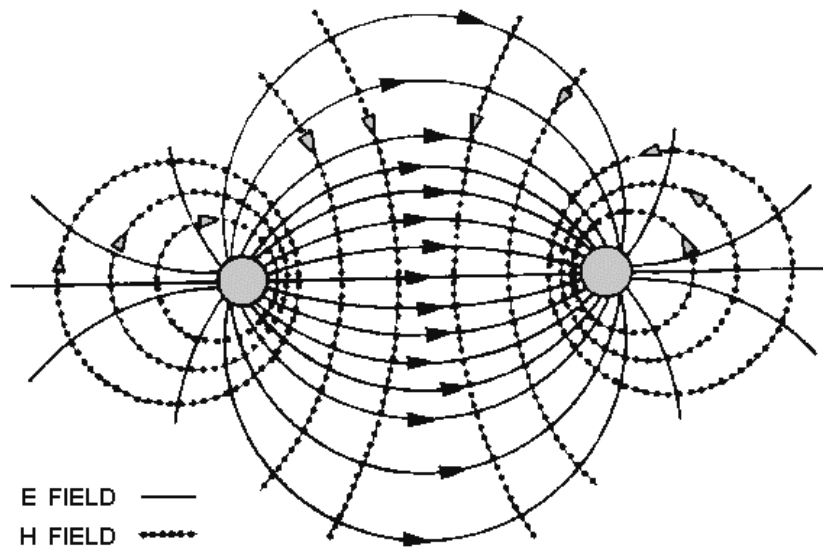

Figure 3-14.—Fields between conductors.
There are two kinds of fields; one is associated with voltage and the other with current. The field associated with voltage is called the ELECTRIC (E) FIELD. It exerts a force on any electric charge placed in it. The field associated with current is called a MAGNETIC (H) FIELD, because it tends to exert a force on any magnetic pole placed in it. Figure 3-14 illustrates the way in which the E fields and H fields tend to orient themselves between conductors of a typical two-wire transmission line. The illustration shows a cross section of the transmission lines. The E field is represented by solid lines and the H field by dotted lines. The arrows indicate the direction of the lines of force. Both fields normally exist together and are spoken of collectively as the electromagnetic field.